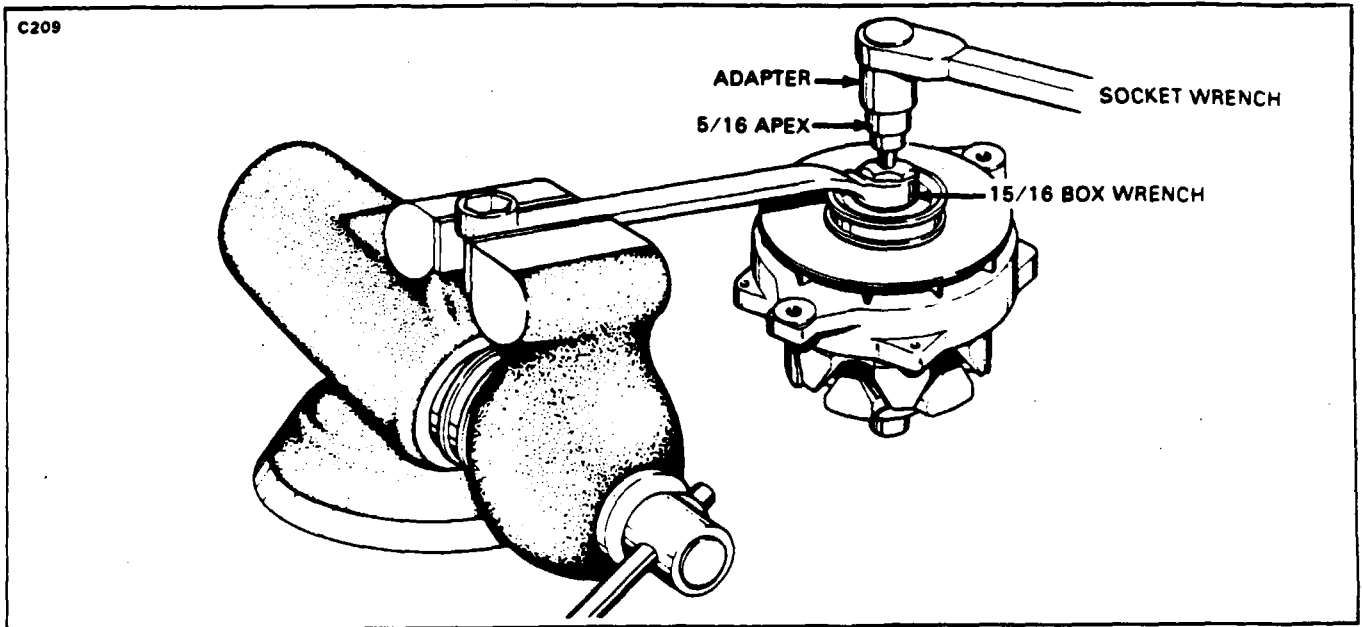

Figure 24-26. Front Housing Disassembly
9. Separate the rotor, fan and pulley from the front housing by removing the hex nut. A special tool similar to Figure 24-26 is required to remove nut. Remove pulley, fan and rotor.